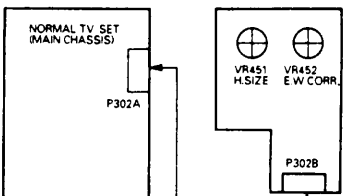

Fig 15.
- 1: Adjust VR452 so that the pin cushion of the right and left side may be disappeared as shown in fig. 15.